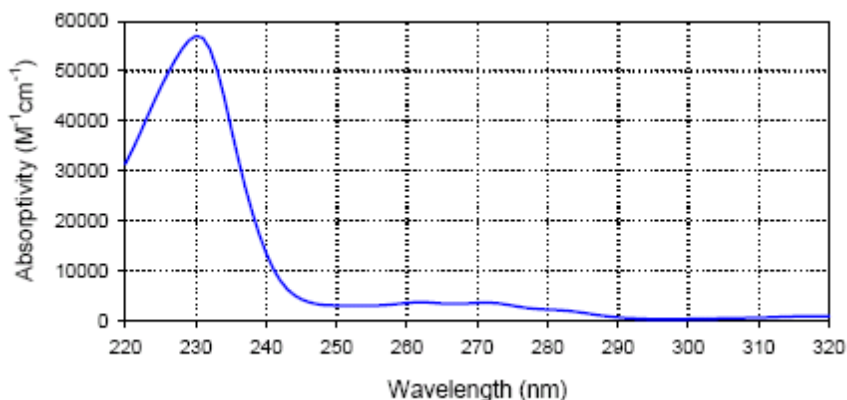

Figure 5. Spectra of Naproxen
- a. For reasons related to its bond chemistry, the absorbance spectrum of Naproxen (Figure 5) has a maximum at 230 nm. We will use that wavelength to monitor the concentration of Naproxen.